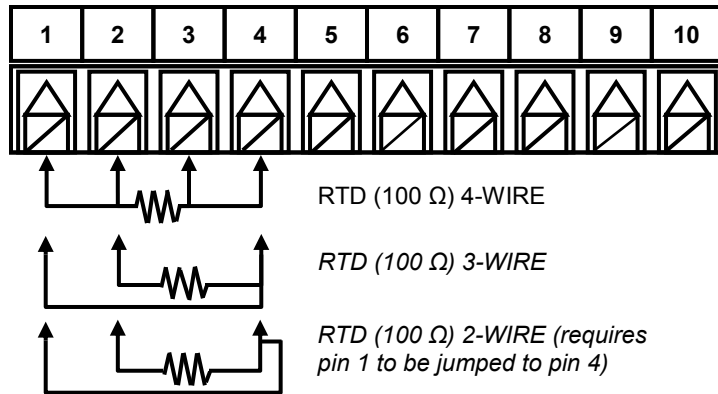
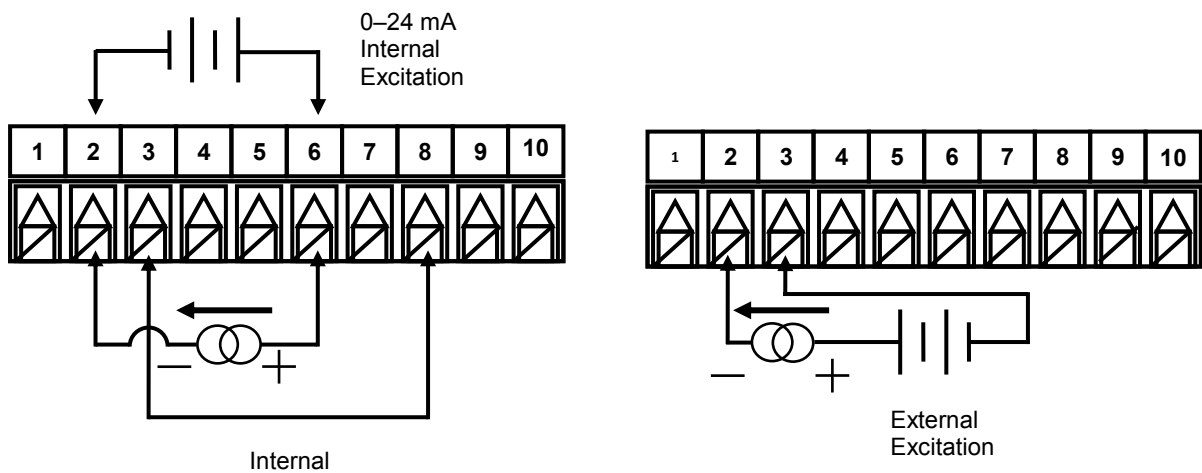
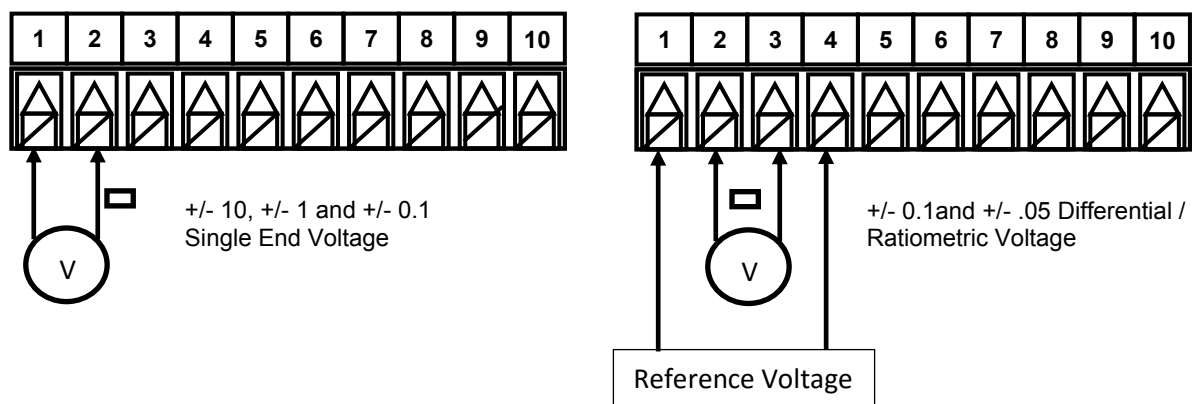

Figure 5 – RTD Wiring Diagram
Figure 6 – Process Current Wiring Hookup with Internal and External Excitation
Figure 7 – Process Voltage Wiring Hookup with optional Ratiometric Voltage connection.
- Figure 5 – RTD Wiring Diagram 13
- Figure 7 – Process Voltage Wiring Hookup with optional Ratiometric Voltage connection. 13
The 10-pin universal input connector assignments are summarized in **Table 1**. **Table 2** provides detail for the specific types of sensors supported. All sensor selections are firmware-controlled (see 4.1 Input Configuration \(INIT > INPt\)) and no jumper settings are required when switching from one type of sensor to another. **Figure 5** provides more detail for connecting RTD sensors. **Figure 6** shows the connection scheme for process current input with either internal or external excitation. **Figure 7** shows the connections for Single Ended and Differential input voltages.